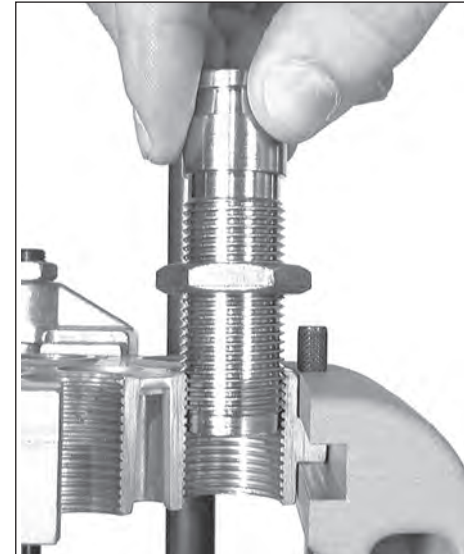

FIG 88
2. Thread the powder die into Station 2. Screw it down about halfway **FIG 88**.